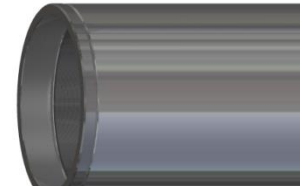

Fig. 9
L-12.7) Screw setting chamber cap (22) into setting chamber (30) (Fig. 9, setting sleeve not shown for clarity).